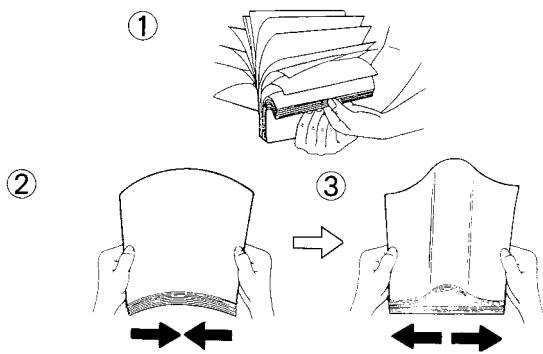

Fig. 1-10
- ① Fan the stack of documents to separate all the edges.
- ② Hold both ends and bend the documents as shown in Fig. 1-10.
- ③ To straighten the documents, hold firmly and pull them apart as shown in Fig. 1-10.